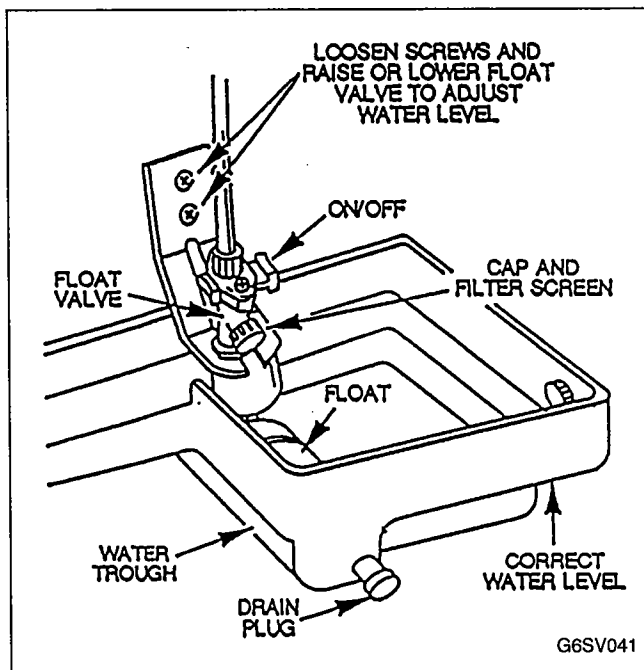

FIGURE 41. FLOAT VALVE CHECK
2. Remove drain plug from trough and allow water to drain. See Figure 41.